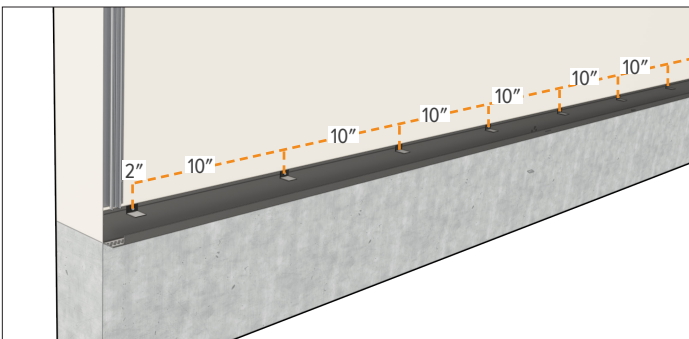

Figure 16.3
3. Secure the Perforated Starter J by placing fasteners through the Plank Backers into the Starter J fastener line at 10" o.c. and no further than 2" from the ends. (Figure 16.3)